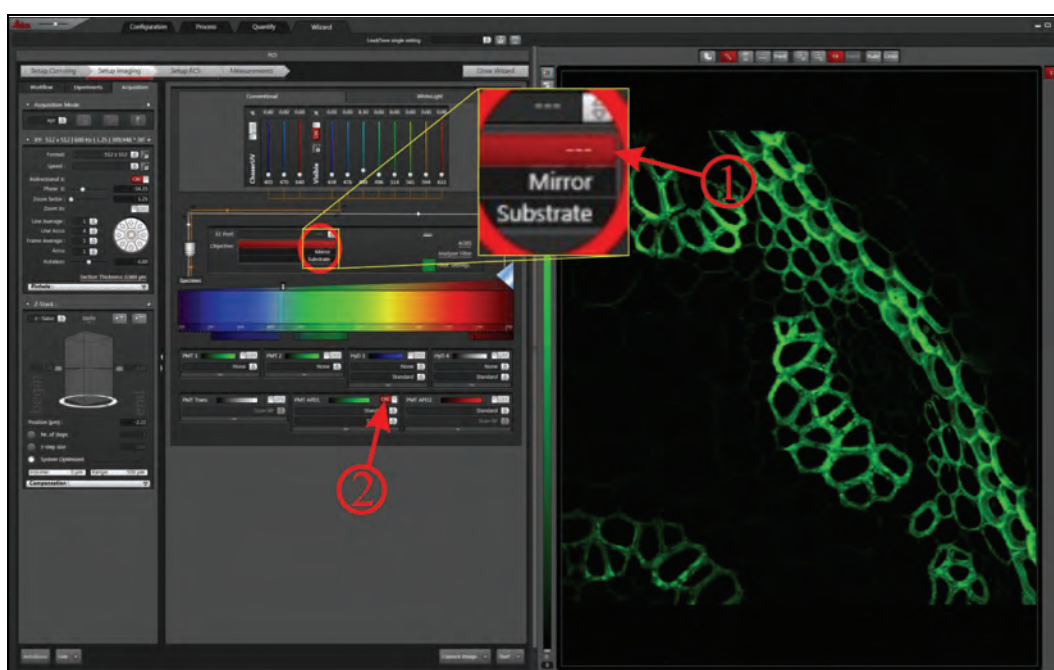

Figure 168: Acquiring the reference image using APDs, setting the X1 port
2. Set the external port X1 (**X1 Port**) to the position --- (**Figure 168, item 1**).
4. Activate the APDs by clicking the corresponding check boxes (**Figure 168, item 2**).